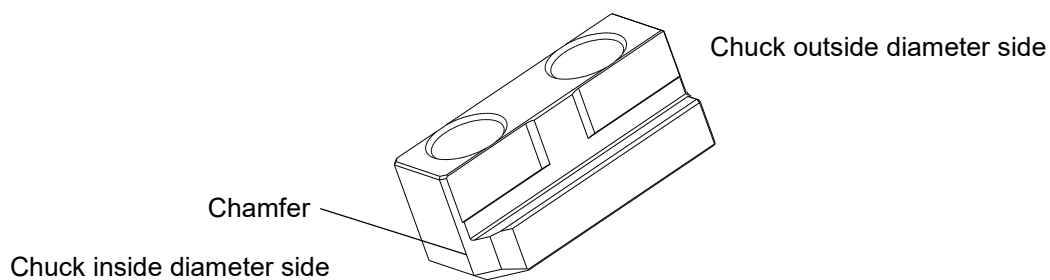

Figure 14-1 Tnut-Plus
A Tnut-Plus as shown in Figure 14-1 is provided for DLR chucks as an option.
**Mount the Tnut-Plus with the chamfer side facing the chuck inside diameter side. (See Figure 14-1)**